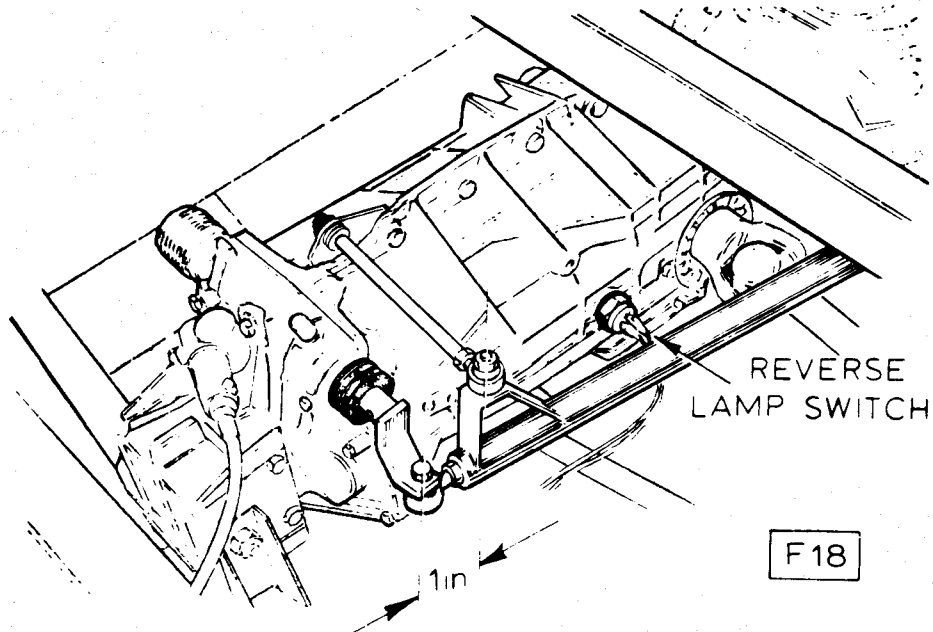

Fig. 111 Setting Dimension of Rear Link
11. Attach the rear longitudinal link to the actuator and adjust ball joint to the dimension shown in Fig. 111. Attach location link (Part No. A065 F 0162) between rear longitudinal link and bracket on gearbox.